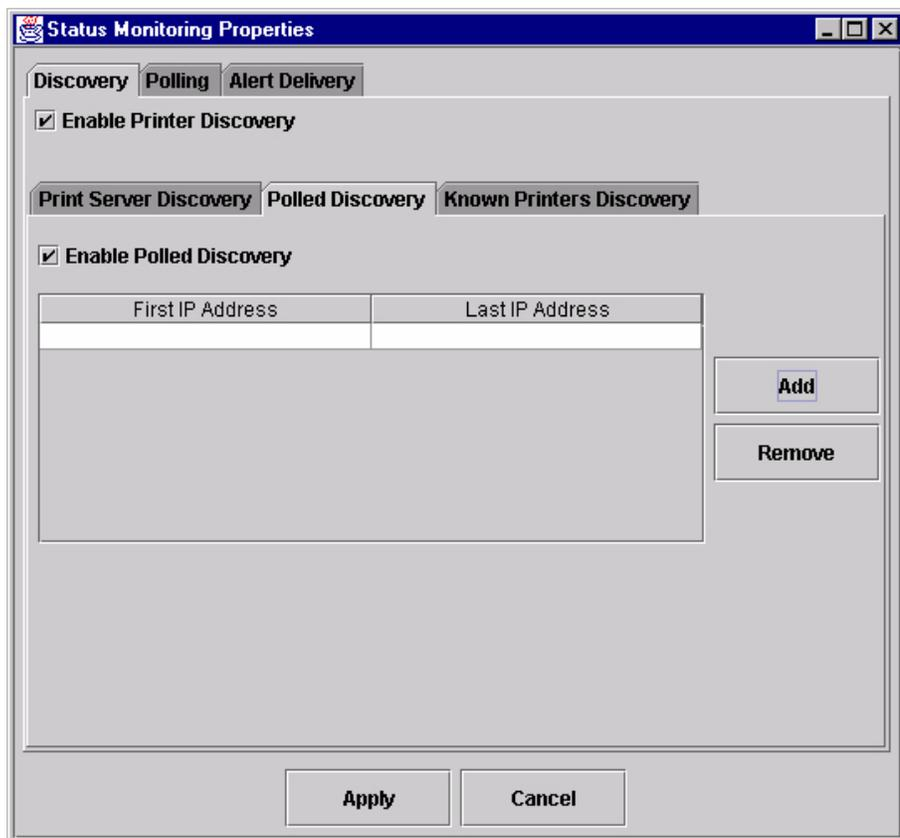

**Figure 18. Status Monitoring Properties:
1. **Print Server Discovery:** This option allows you to discover all IBM 4400/6400 Series Ethernet Interface-equipped Printers on a subnet. To enable the option, check the **Enable Print Server Discovery** check box in the Status Monitoring Properties dialog box (see Figure 18), then click **Apply**. The results of the search display in the database pane.